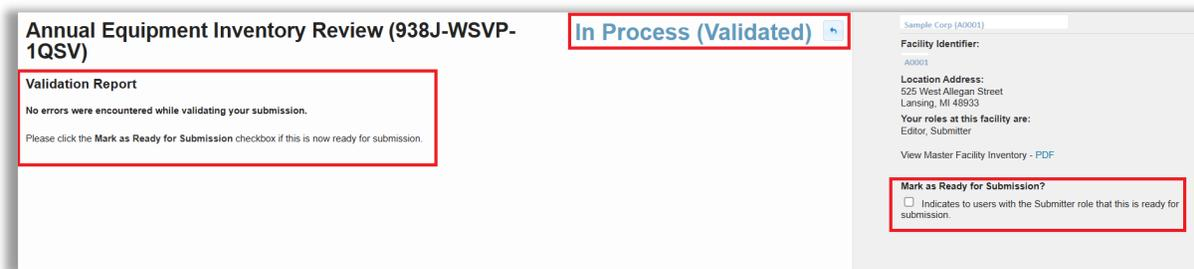
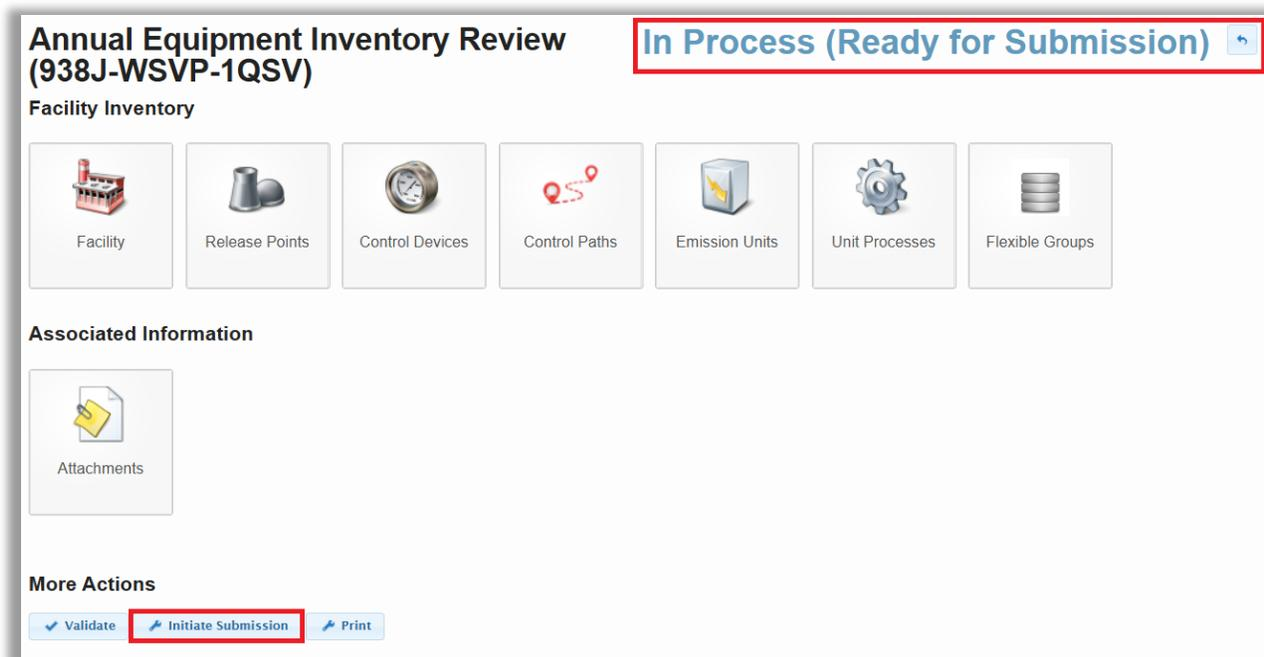

Figure 11-12 – Form Validated and Mark as Ready
Figure 11-14 – Form Ready for Submission
3. If there are no errors, the status will be changed from **In Process** to **In Process (Validated)** . If there are no errors Editors can click **Mark as Ready** for Submission See **Figure 11-12**. The status will change from In Process (Validated) to In Process (Ready for Submission) see Figure 11-14. Notify the person who is the submitter if they don't regularly log in to check for forms that are ready to be submitted.
4. Submitters can click **Initiate Submission**. See **Figure 11-14**.